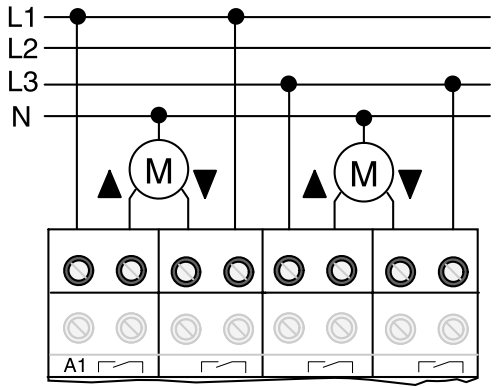

Fig. 5: Connection of blind/shutter motors
- Connect the drives (Fig. 5).